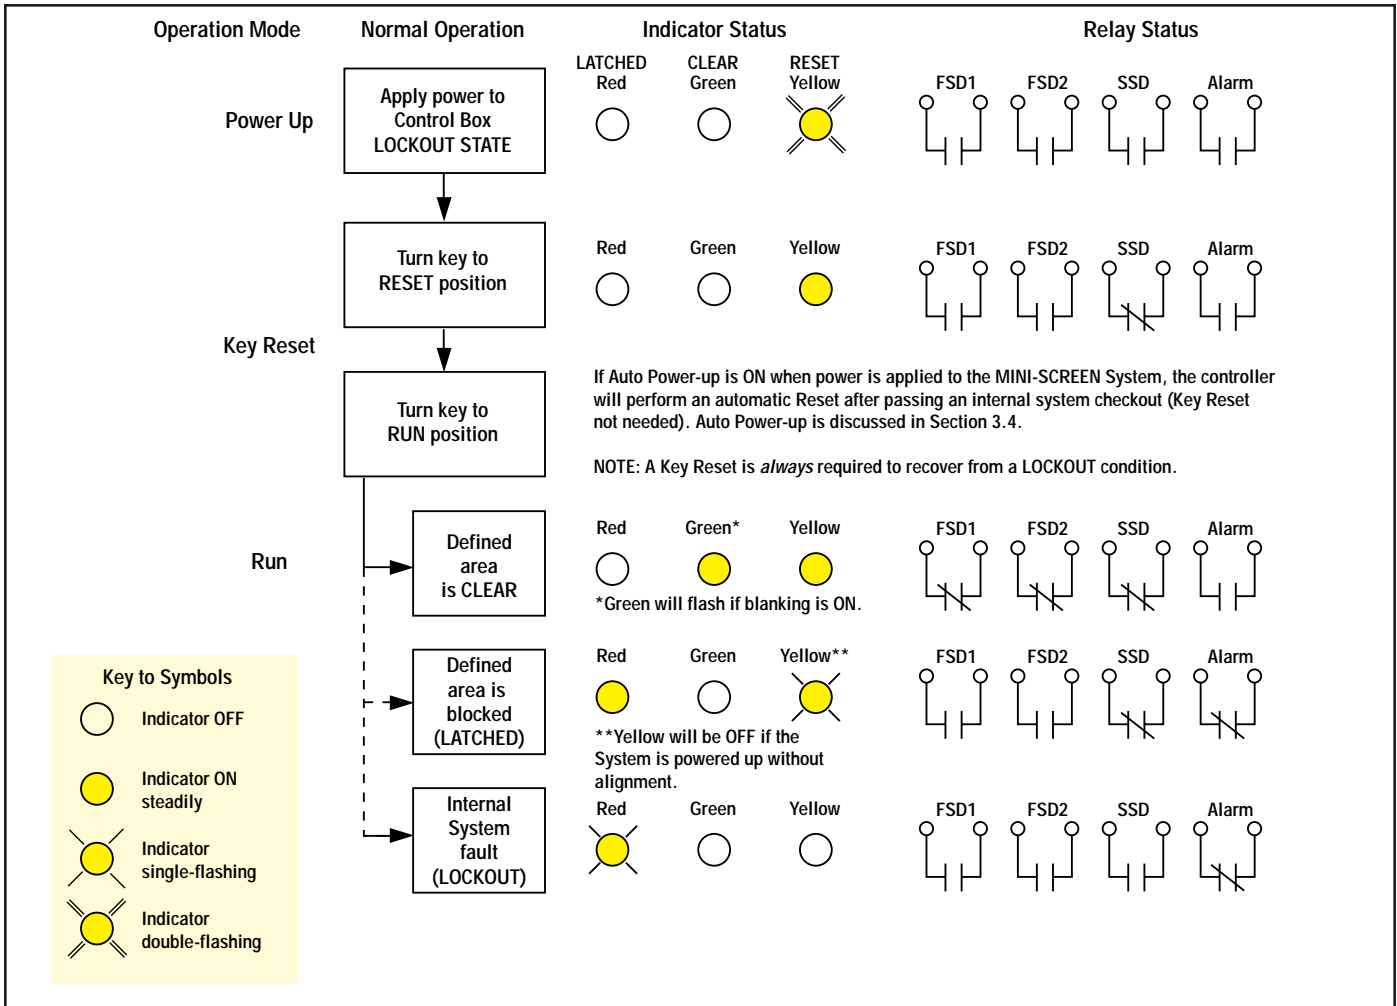

Figure 5. Operating status conditions
- Upon power-up of the MINI-SCREEN System (unless Auto Power-up is ON; see Figure 5, page 10); or
- If ac power to the MINI-SCREEN System is interrupted (unless Auto Power-up is ON; see Figure 5).
A lockout condition resulting from an internal system fault is indicated by a flashing red status indicator on the control box and the receiver. The green and yellow status indicators will be OFF. See Figure 5, page 10.
**Yellow (only) ON and double-flashing:** a *double-flashing* Yellow status indicator indicates a power-up or power interrupt lockout condition. *These lockouts occur in the normal course of powering up the MINI-SCREEN System or upon an interruption of power to the System (unless Auto Power-up is ON; see Figure 5).* SSD, FSD1, FSD2, and Alarm contacts are open (de-energized).